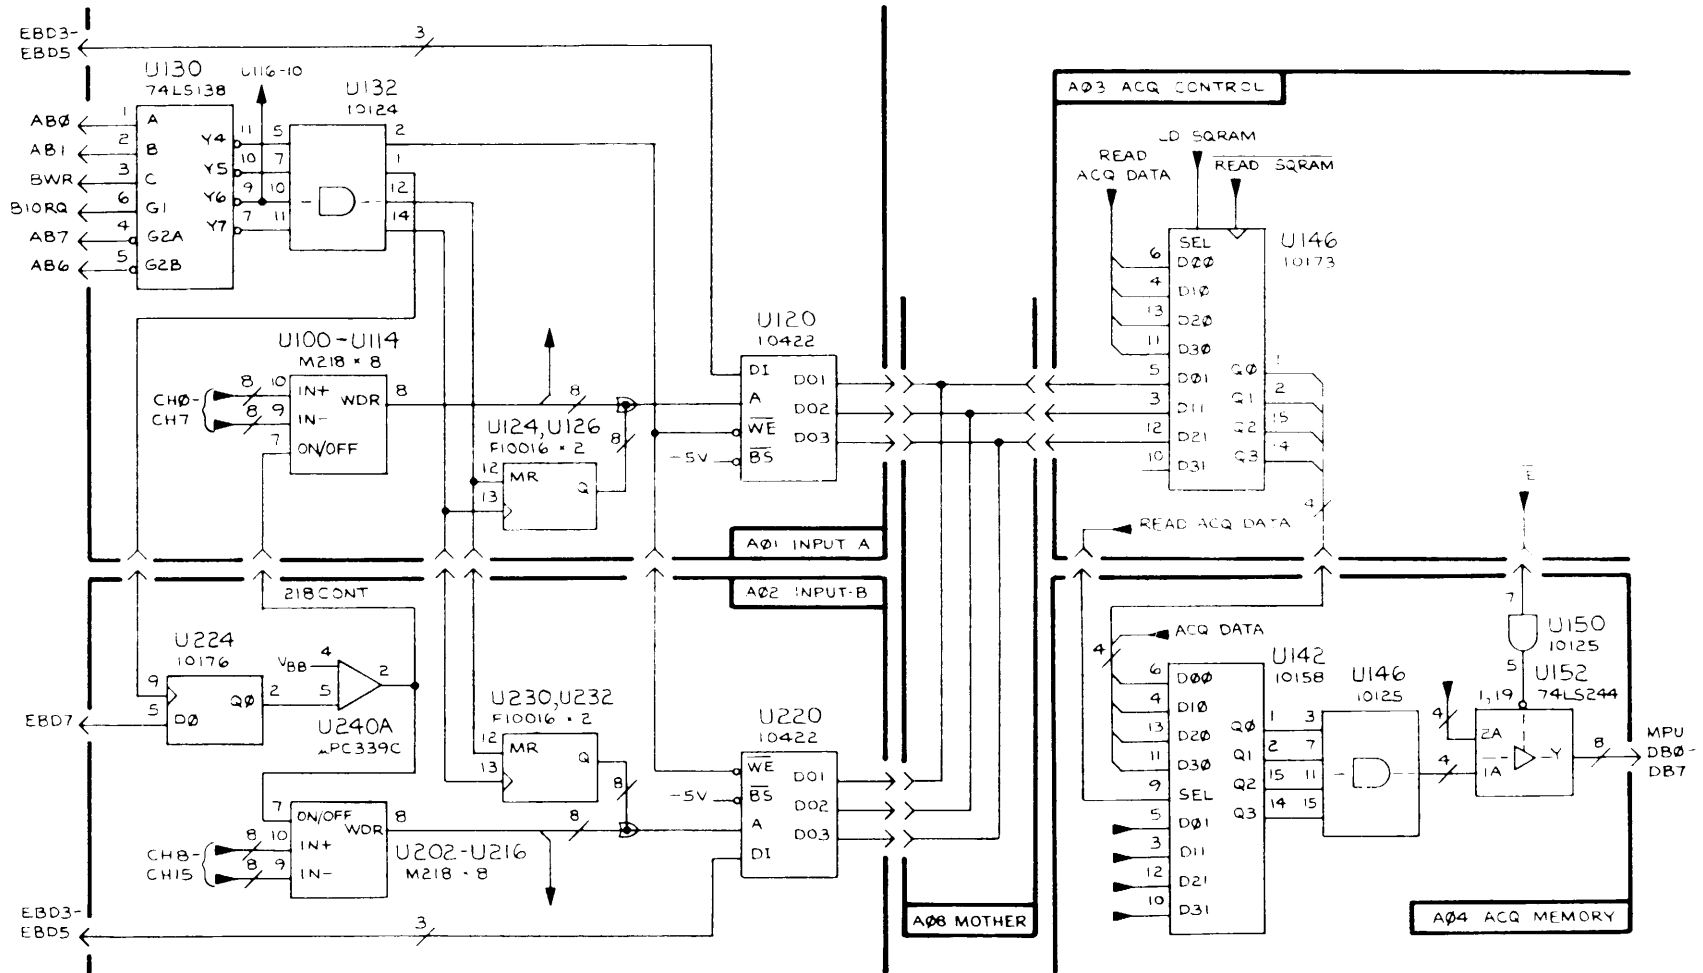

Figure 7-7. 318 Word recognizer test.
Description: Refer to Figure 7-7. On the A01 INPUT-A board, data from channels 0 through 7 (Pod- A) is latched by M218s U100 through U114 <1> (logic analyzer input, M218) and supplied to the word recognizer (WR) U120 (256 word X